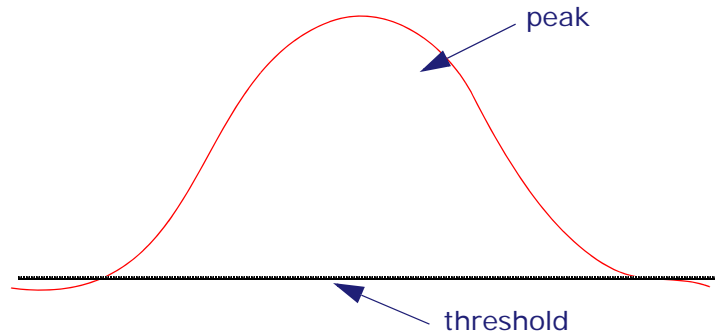

Figure 16.8 Threshold cut-off point
- **Threshold** In the threshold method of peak detection the start of a peak is determined by the signal (after smoothing and baseline subtraction) rising above the threshold value indicated. The end of the peak is determined as the location where the signal falls below this value once more. (Figure 16.8). Once the start and end of the peak have been determined the peak is subject to the minimum width criteria specified in the width parameter. Note that this means that a peak that has an apex value greater than the threshold may still not be reported if its width between these threshold values is too small. The threshold and the apex in 'Threshold - Apex' peak detection should not be confused since the Apex value in this case is the reporting method not the detection method. In general the 'Gradient